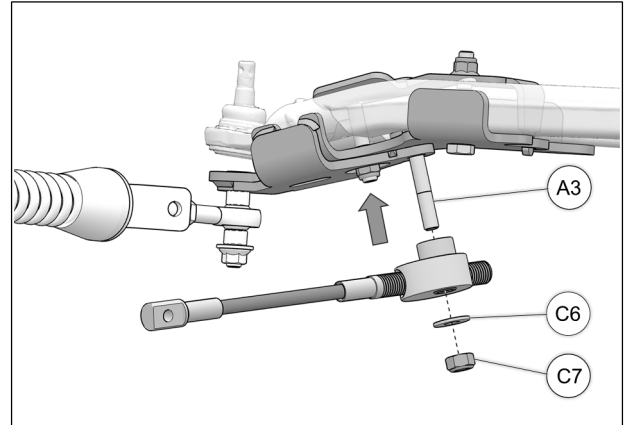

Fig. 23
15. Slip steering limiter cable assembly over M10x65mm bolt (**A3**) previously installed in step 5. Use supplied washer (**C6**) and nut (**C7**) to secure steering limiter assembly in place. Tighten nut to 50 Nm [37 lb•ft]. Refer to Fig. 23